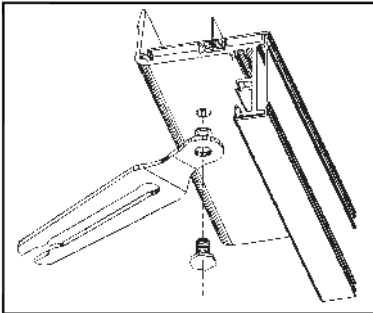

Figure 14
2. The assembly of the spring, washer and shoulder screw is made at the factory. Refer to Figure 14 .